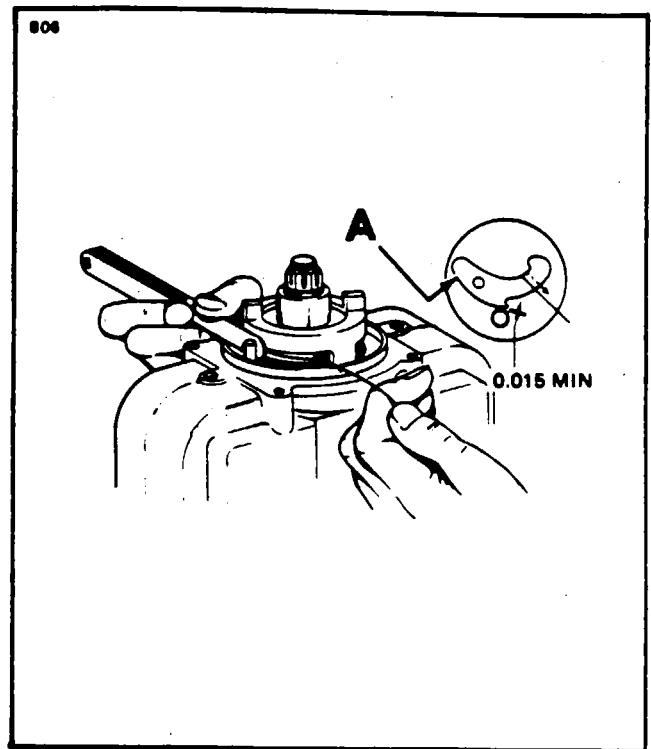

Figure 74-11. Checking Flyweight to Stop Pin Clearance
B. Hold the magneto as shown in Figure 74-11. Pull the heel of the flyweight outward with the fabricated hooked wire and make certain that a feeler gauge of 0.015 of an inch minimum thickness will pass between the stop pin and the highest point of the flyweight.
A true and accurate check of the clearance between the flyweights and stop pins can only be obtained by pulling the flyweight outward as described. Do not attempt the check by pushing in on the flyweight at point "A" of Figure 74-11.